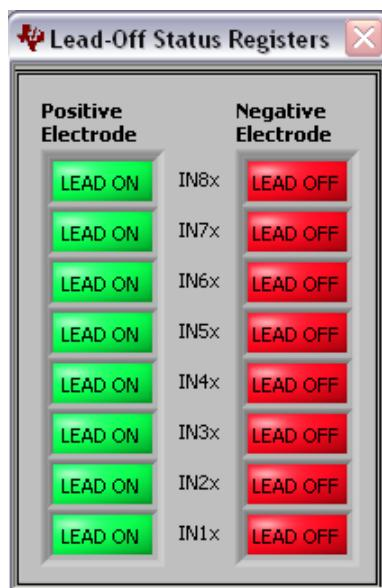
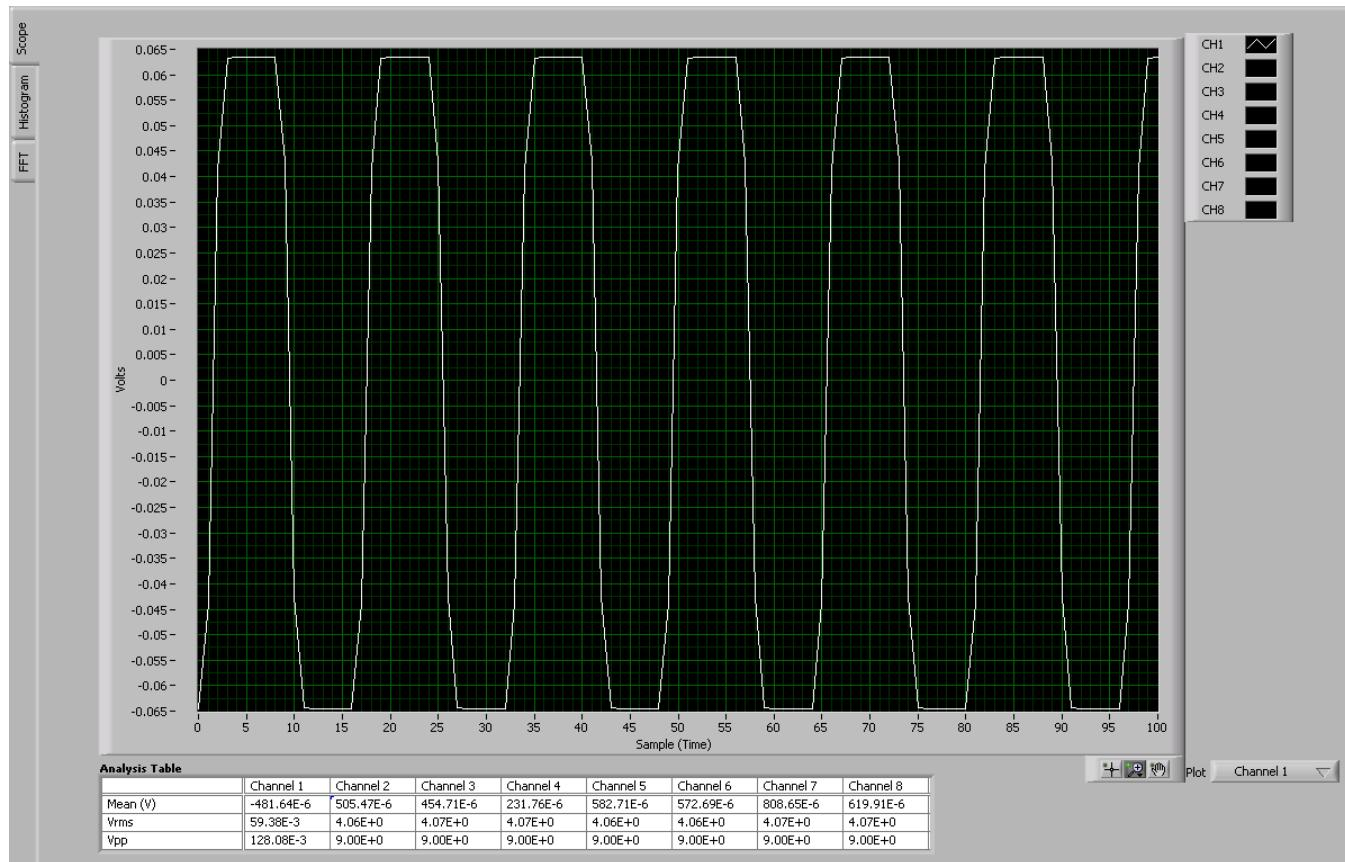
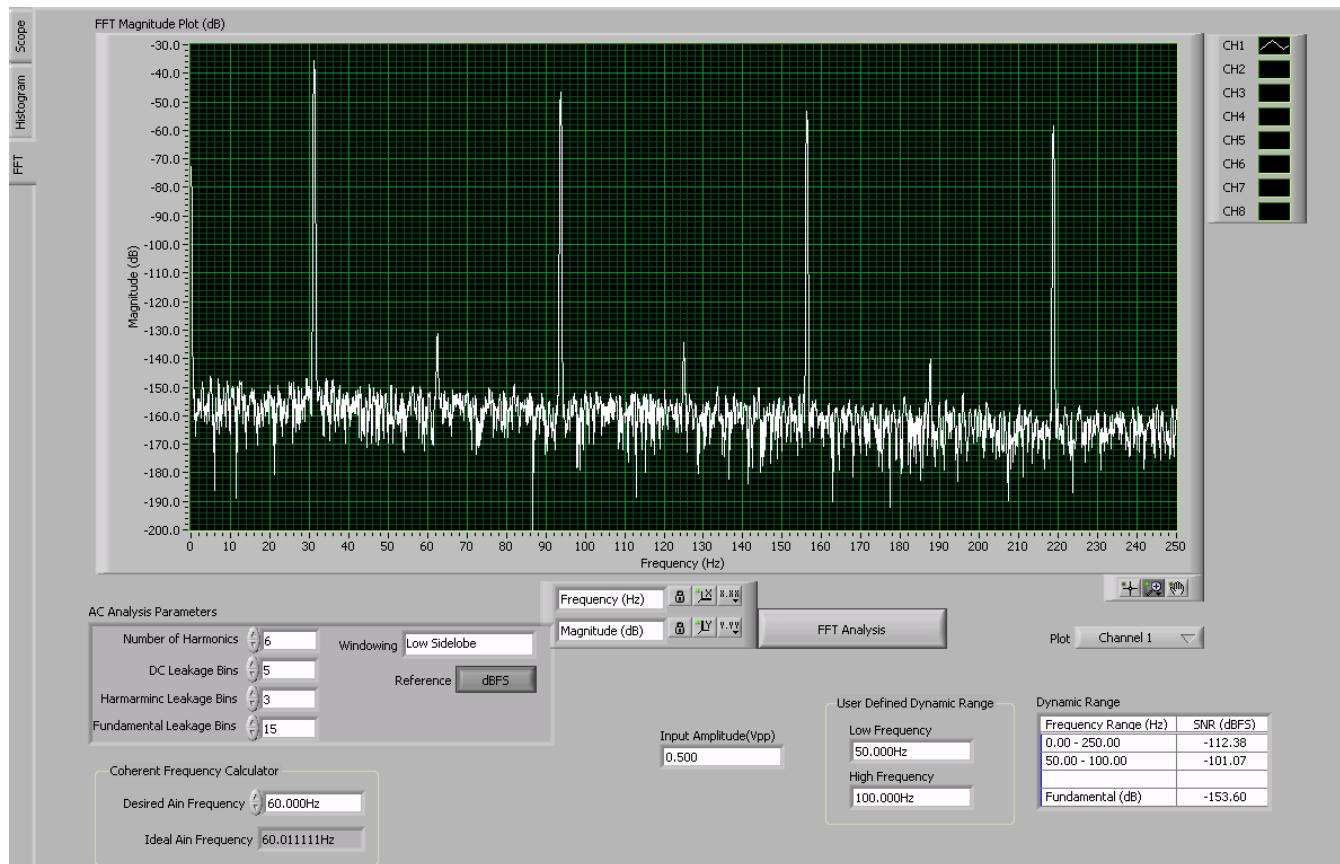

Figure 43. Lead off Status Registers
Figure 44. Scope tab for Impedance Measurement at 31.25 Hz
Figure 45. FFT Analysis for Impedance Measurement at 31.25 Hz
Step 4. The software has an option where the LOFF_STATP and LOFF_STATM Registers are continuously polled (set the *Read Status Registers* switch as shown in Figure 43). This option allows the user to see the lead-off detection scheme work in real time. Figure 44 shows a case for which only positive electrodes are connected.
As an example Figure 44 shows the snapshot of the scope with 5K impedance on each source with 6 μ A of lead-off current at 31.25 Hz. We expect a theoretical peak to peak voltage of 120mV. The observed peak-to-peak voltage is 128mV which is within the tolerance specification of current source. The results can also be analyzed in frequency domain using the FFT analysis tab as shown in Figure 45. The magnitude of the fundamental component will be directly proportional to the electrode impedance being measured.